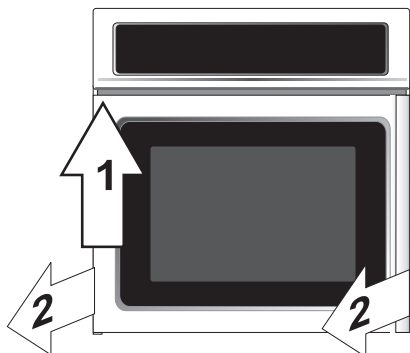

Figure 7
- 3.1.2. Support and lift up the door such as to clear the lower hinge pin (Figure 7).
- 3.2.1. Remove the six (6) screws and washers located on the right side of the oven frame (see B, Figure 7). Keep the screws and washers to reinstall them at step 3.2.5.